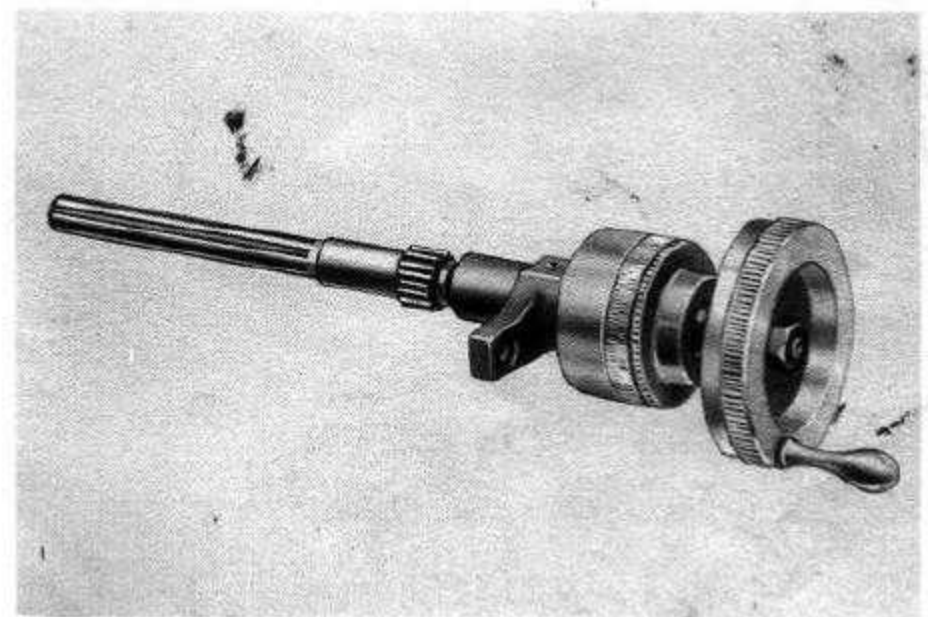

Figure 2
5. Take the cross slide screw assembly apart. Reassemble the parts on cross slide screw furnished with taper attachment -- refer to figure 2.